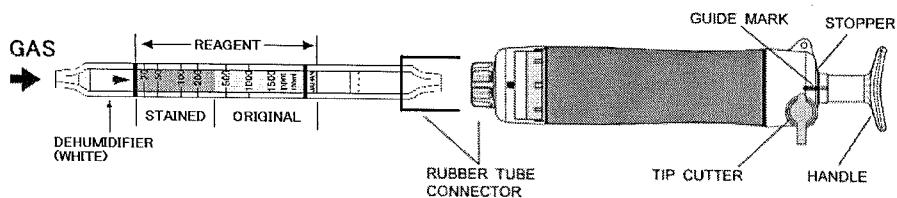

Fig.1
- ② Insert the detector tube into the aspirating pump securely as shown in Fig.1. (Arrow mark shall point to the pump.)
- ③ Align the guide marks on the shaft and stopper of the aspirating pump.
- ④ Pull the pump handle at a full stroke until it locks and wait for 1.5 minutes or until the completion of sampling is confirmed with the flow indicator of the pump (See descriptions about the flow indicator in the instruction manual of the pump).
- ⑤ On completion of sampling, read the scale at the maximum point of the stained layer.
- ⑥ In case of measurement for Methyl amyl ketone, push back the handle without removing the detector tube from the pump inlet, turn it right or left 1/4 and repeat step ④~⑤ twice more.
- ① Temperature; Correct the tube reading by following temperature correction table for Methyl ethyl ketone.